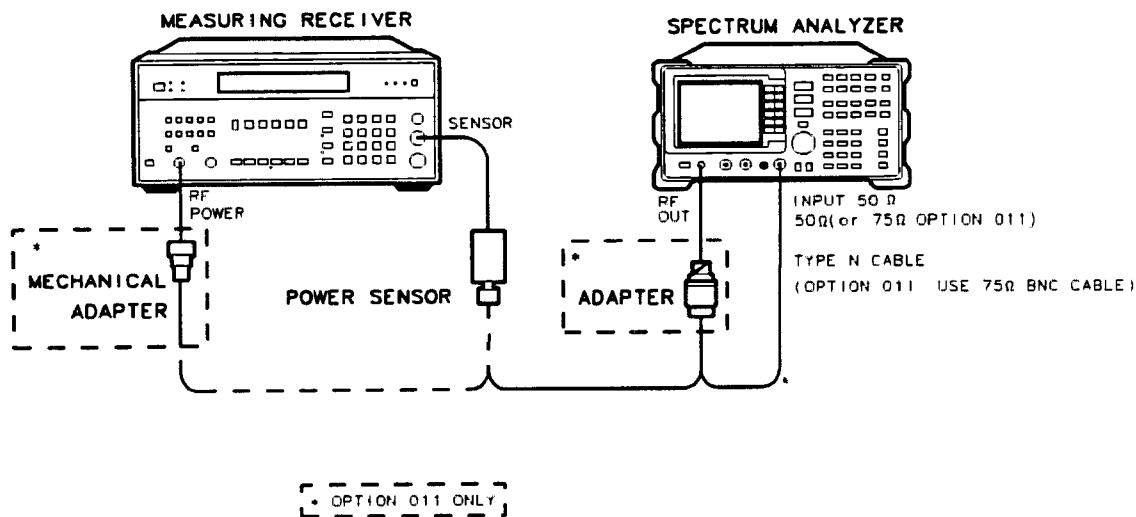

Figure 3-23. Absolute Amplitude, Vernier, and Power Sweep Accuracy Test Setup
1. Connect the Type N cable between the RF OUT 50Ω and INPUT 50Ω connectors on the spectrum analyzer. See Figure 3-23.
6. Disconnect the Type N cable from the RF OUT 50Ω and connect the power sensor to the RF OUT 50Ω as shown in Figure 3-23.